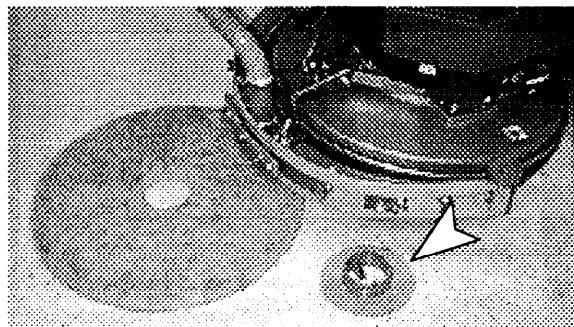

FIG. 8.
5. Remove the plastic centerlock from the pad driver by turning it **counterclockwise**. Position the pad accurately centered on the pad driver and replace centerlock. Turn centerlock **clockwise** until secure. (Figure 8)